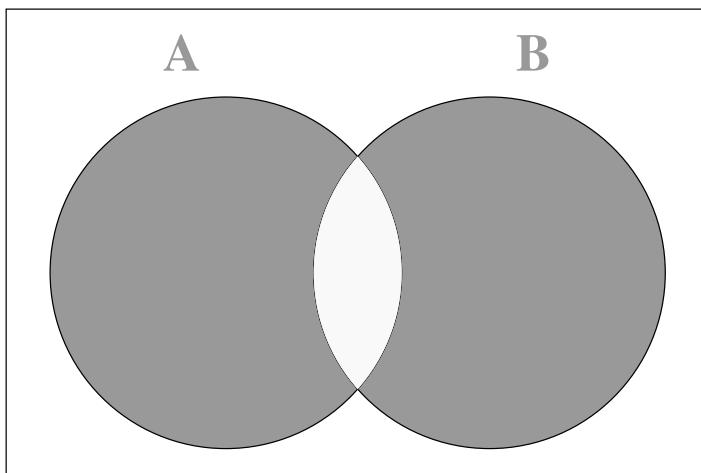

Fig. 4.28: Venn Diagram
50. The Boolean expression for the shaded regions as shown in Fig. 4.28 is \_\_\_\_\_.